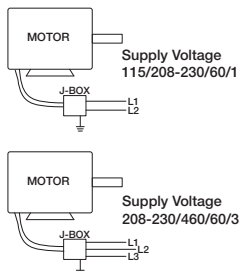

Figure 11 — Typical Wiring Diagram
7. Rotation direction of the propeller should be checked by momentarily turning the unit on. Rotation can be in either direction depending on whether the application requires an exhaust or supply fan. Fan rotation can be reversed by adding the drum switch accessory or in 3-phase applications by interchanging any two of the three electrical leads or for single-phase applications follow the wiring diagram located on the motor or see Figure 11 on page 5.
2. Wire motor for desired voltage per wiring diagram on motor or refer to Figure 11 for connection wiring diagram.